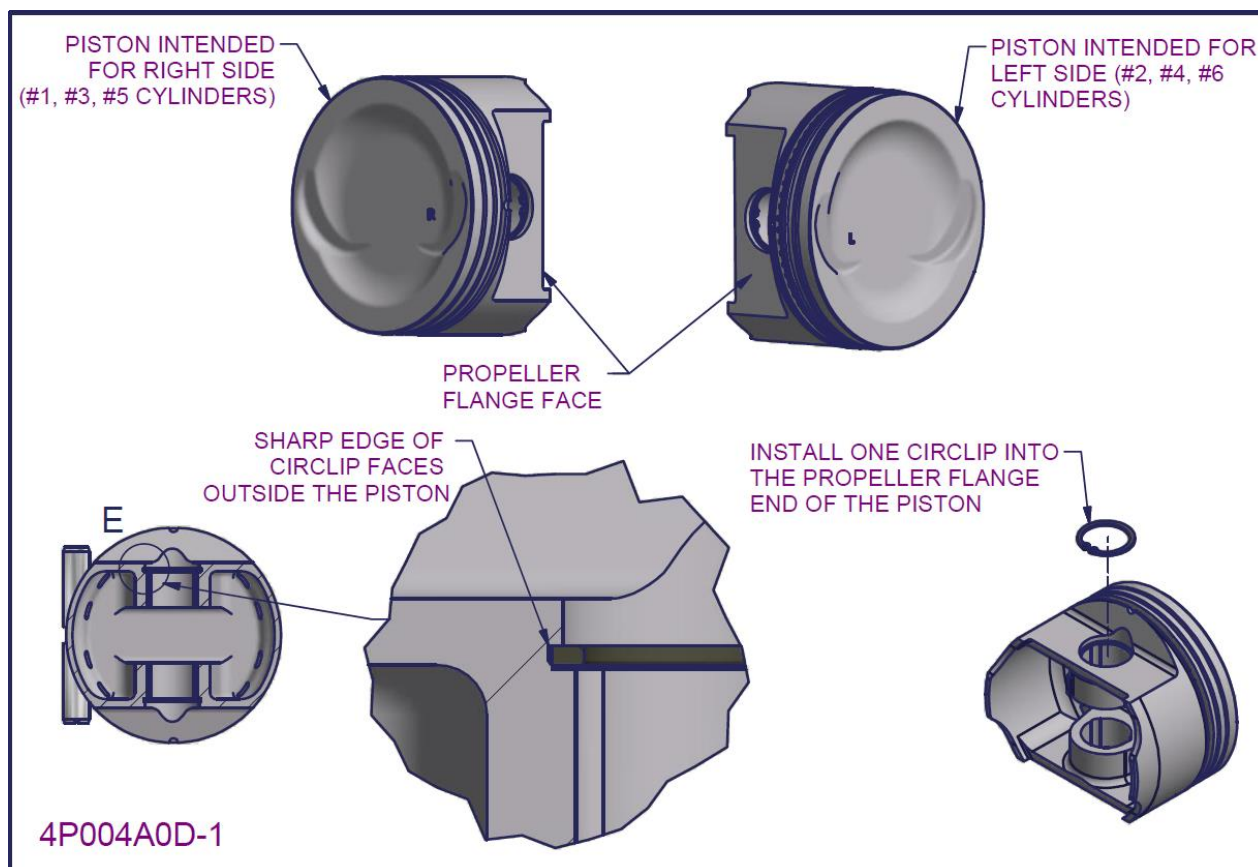

Figure 62 – 2200/3300 cylinder assembly 7
- Both left and right side pistons must be installed into the engine with the valve reliefs in the crown forming a 'smiley face' (not a frowning face). Based on this orientation the Propeller flange faces of the piston (i.e. the end of the piston which must be installed closest to the propeller flange) are indicated in Figure 62.
- Ensure the circlip is installed with the sharp edged face pointing to the outside of the piston as shown in Figure 62.